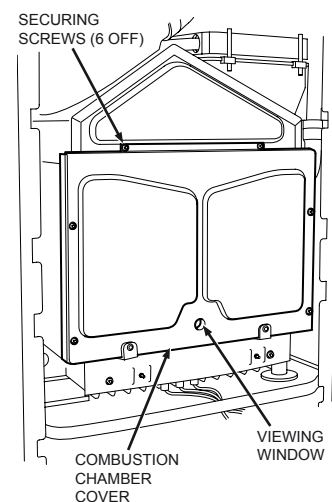

Figure 18.4
- 18.6** Remove the combustion chamber cover by removing four screws on sides. (*Figure 18.4*)